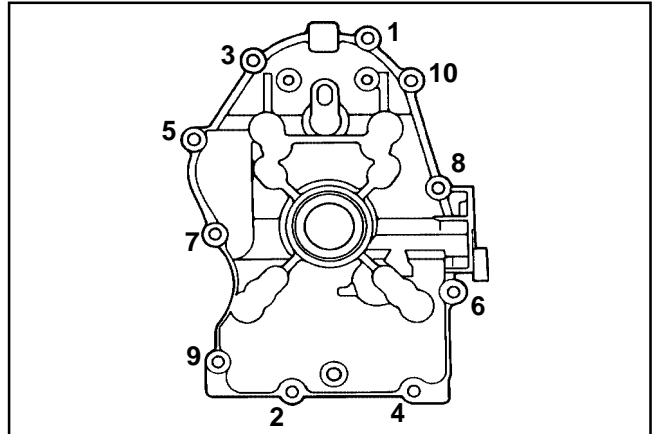

Figure 11-21. Closure Plate Fastener Torque Sequence.
6. Install the ten hex. flange screws securing the closure plate to the crankcase. Torque fasteners in the sequence shown in Figure 11-21 to **24.4 N·m (216 in. lb.)**. On some engines one of the ten mounting screws is plated. The plated screw is typically installed in the #6 hole shown in Figure 11-21.